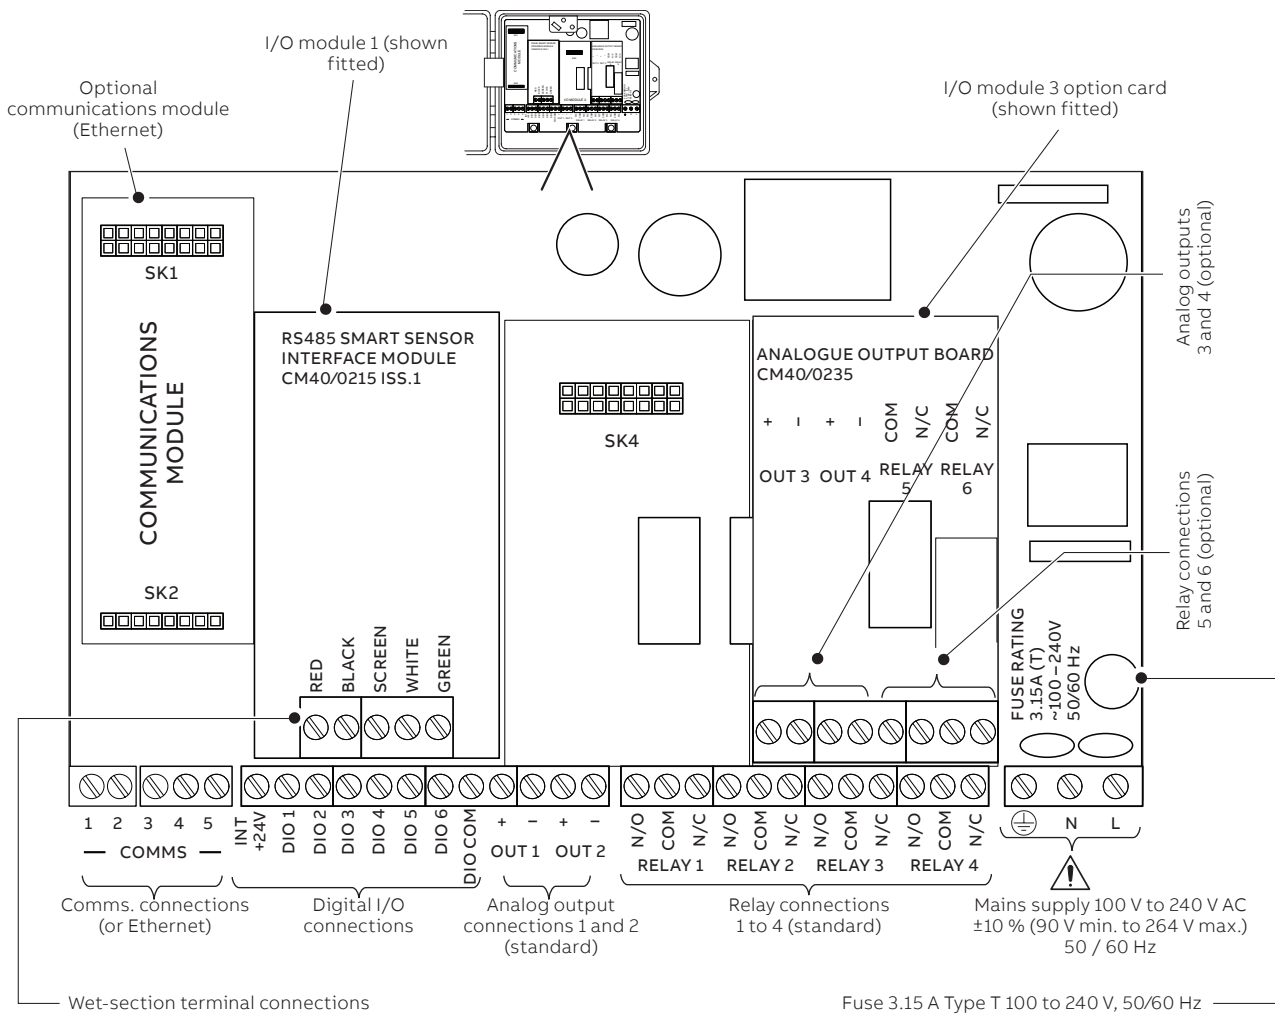

Fig. 3.14 Connections overview
- Ensure the correct fuses are fitted – see Fig. 3.14, page 18 for fuse details.